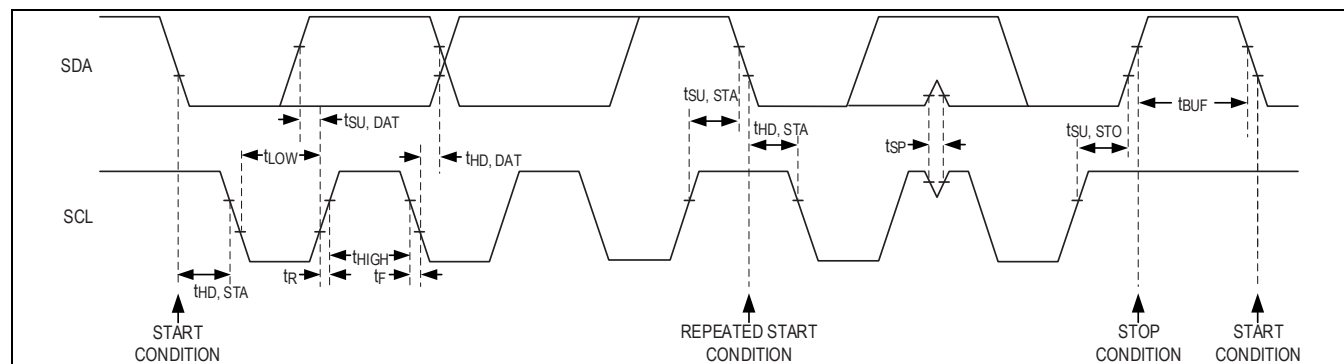

Figure 9. Detailed I²C Timing Diagram
Figure 9 shows the 2-wire interface timing diagram. The controller generates SCL and initiates data transfer on the bus. The controller device writes data to the MAXM86161A by transmitting the proper target address followed by the register address and then the data word. Each transmit sequence is framed by a START (S) or REPEATED START (Sr) condition and a STOP (P) condition. Each word transmitted to the MAXM86161A is 8-bit long and followed by an acknowledge clock pulse. A controller reading data from the MAXM86161A transmits the proper target address followed by a series of
The detailed timing diagram of various electrical characteristics is shown in Figure 9.